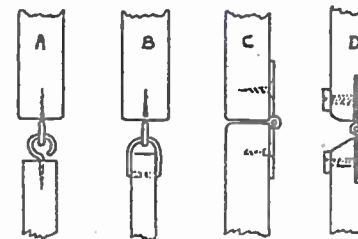

Fig. 2
There are many different ways of hinging the trap-door to the main door and a selection of these is shown in Fig. 2. All of them are quite easy to fit and are equally efficient. In (A) two small screw eyes are fixed in the top of